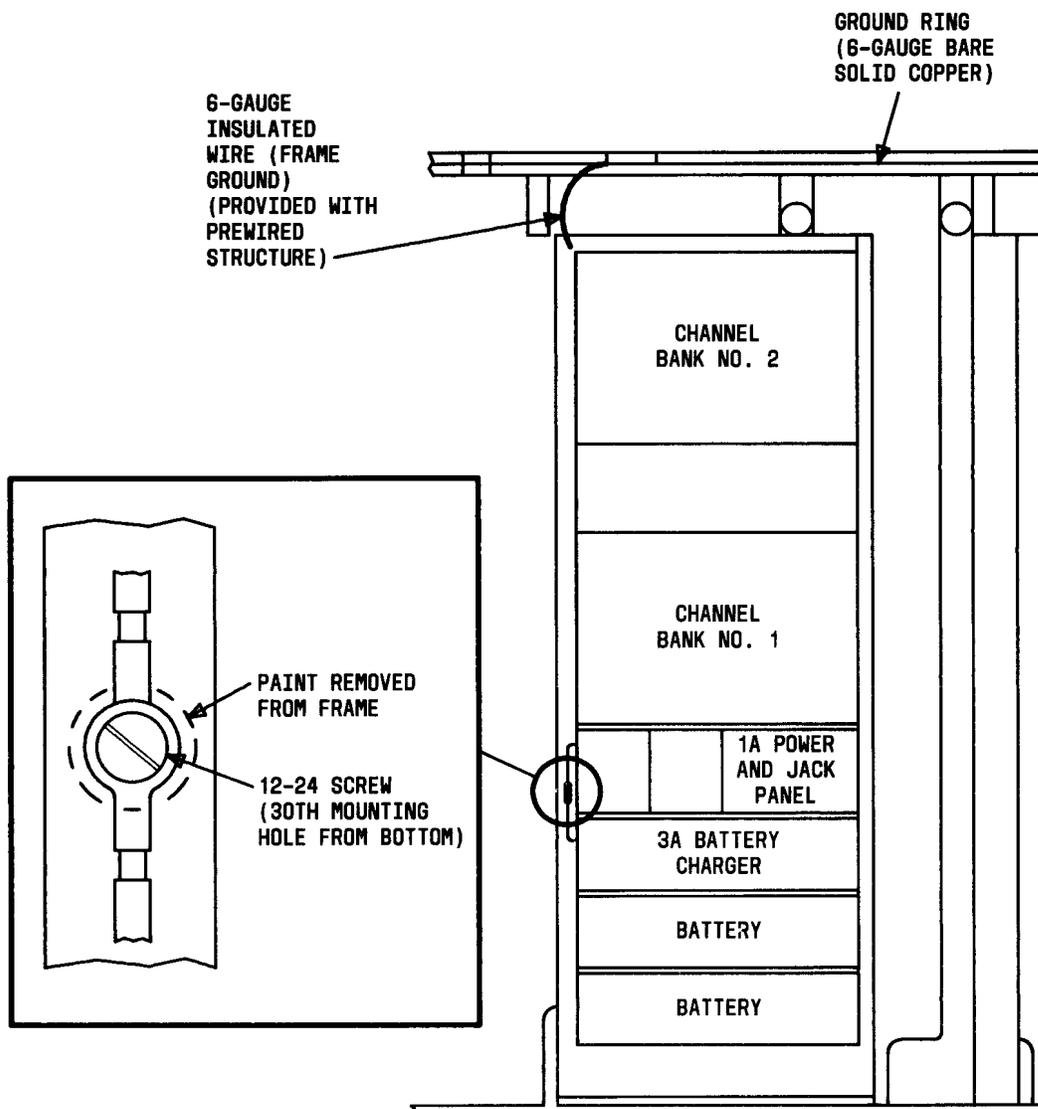

Fig. 12—Equipment Grounding
5.02 The lugs on the leads to the power and jack panel and the battery charger are placed under the head of a No. 12-24 screw (furnished with power and jack panel) at the 30th mounting hole, from bottom of frame, as shown in Fig. 12.